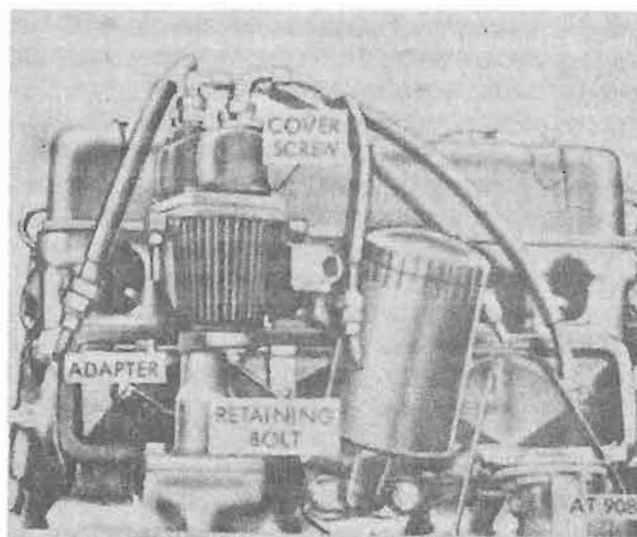

Figure 4-281. Preliminary ignition timing.
d. Time Distributor (preliminary). Slowly turn distributor housing on distributor adapter until breaker points just start to open. Install $\frac{1}{4}$ -20x1.0 hex-head distributor retaining bolt with $\frac{1}{4}$ inch flat washer and $\frac{1}{4}$ inch lockwasher through slot in adapter into tapped hole in distributor (fig. 4-281). Tighten bolt 3-5 lb.-ft. torque and install distributor cover assembly. Tighten screws firmly. Refer to paragraph 4-126 for final ignition timing procedures.